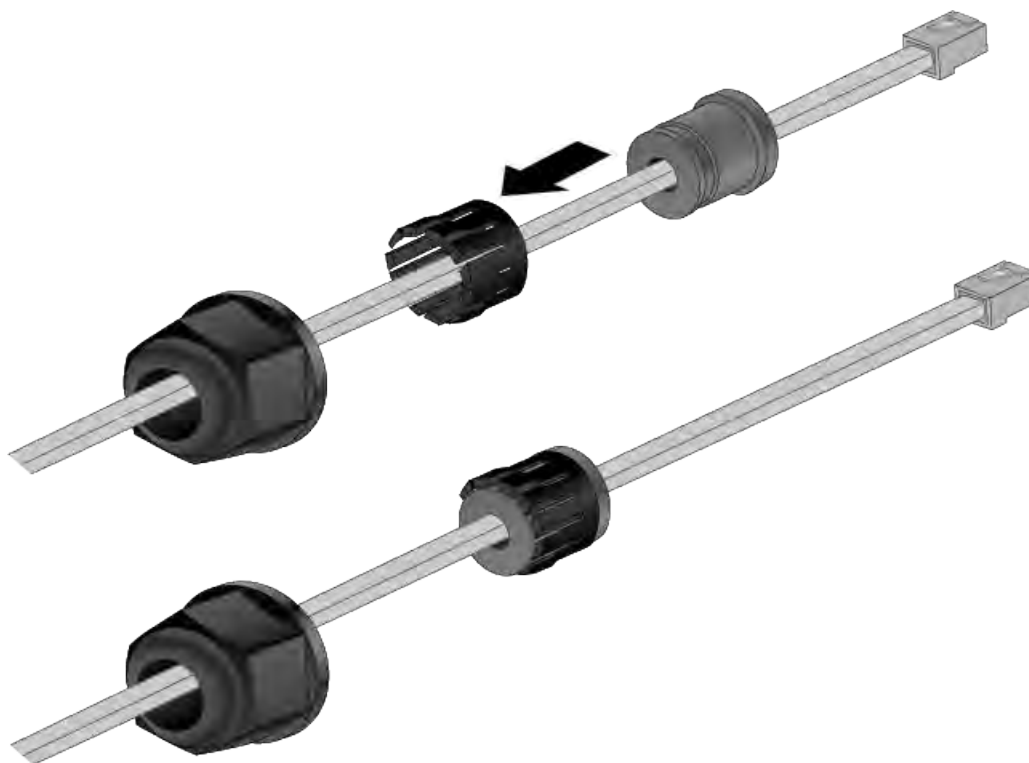

Figure 15. Inserting the Sealing Insert in the Clawing Clamp
6. Slide the sealing insert into the clawing clamp. Refer to Figure 15.